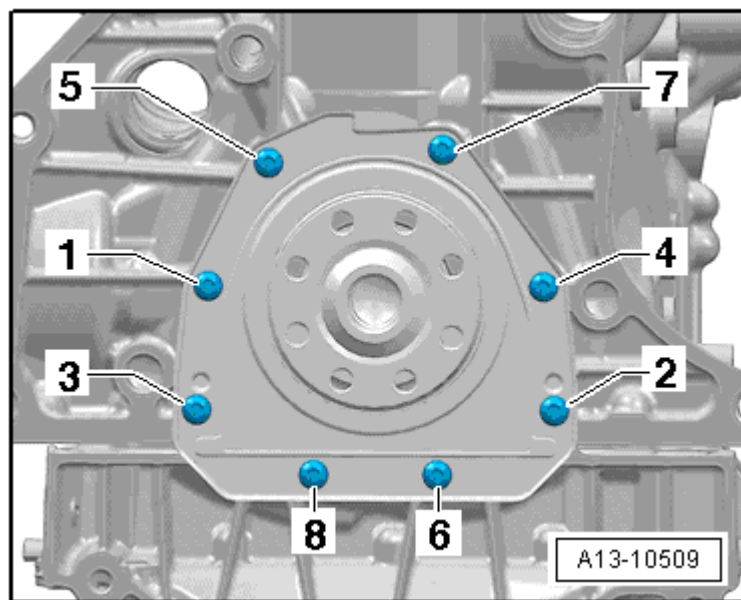

Fig. 10: Identifying Sealing Flange Tightening Sequence
- Tightening sequence, refer to **Fig. 10**.